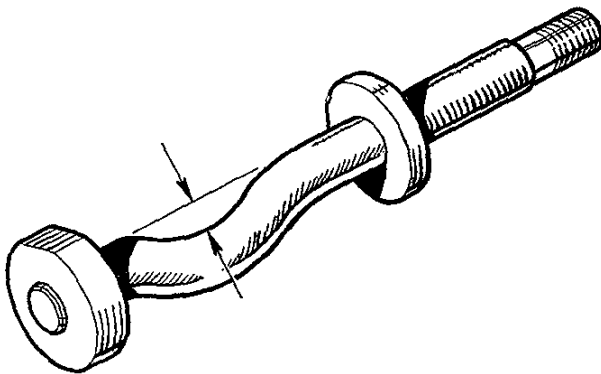

Fig. G.7
(28) Refitting is a reversal of the removing procedure given in Section K.2.●
(29) When fitting a replacement drive shaft assembly (of the type fitted with a rubber boot on the sliding joint) to the left-hand side of an early model, it will also be necessary to fit a modified lower arm inner pivot pin to ensure sufficient clearance for the rubber boot. Reference should be made to Fig. G.7 for the dimension of the modified pivot pin.